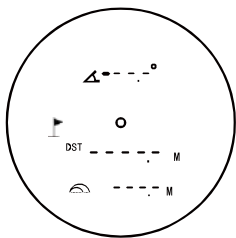

Figure 3a
The device will measure the angle of incline/decline, then calculate and display the slope-adjusted distance. In the slope mode, press the Power/measure button (1). The angle, straight line distance value, and trajectory correction will be displayed (Fig. 3a, 3b).